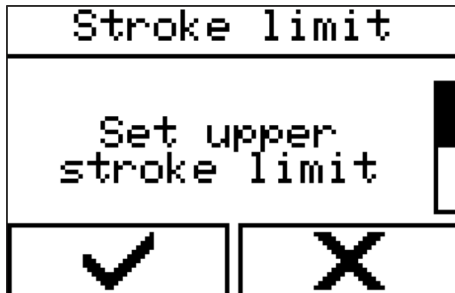

Fig. 96: Selecting a menu
1. ➔ Select the menu via 'Control' → 'Stroke limit' → 'Set upper stroke limit' (Fig. 96).